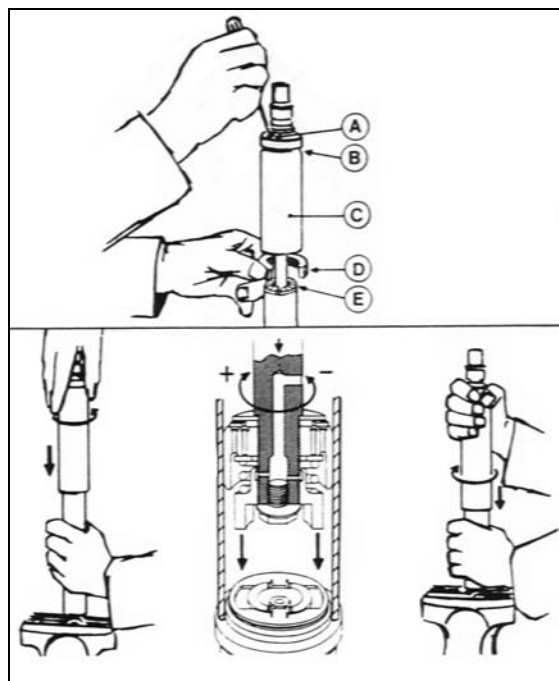

FIGURE 15: DAMPER
2. Fully close the damper while turning the dust cap or piston rod slowly CCW until it is felt that the cams of the adjusting nut engage in the recesses of the foot valve assembly (Fig. 15).
Note: In figure 15, if there is an indentation (B) in the dust cap (C) and the cover shows two holes (A), the damper is fitted with a bump rubber (D). If so, fully extend the damper and insert a round bar or screwdriver through the holes. Push the bump rubber down and remove. Remove the split plastic collar (E) (if fitted) from the piston rod.
Note: Where a bump rubber was installed, refit same inside the dust cap and by fully closing the damper, the rubber will seat again at top of the dust cap. Refit the split plastic collar E (Fig. 15)